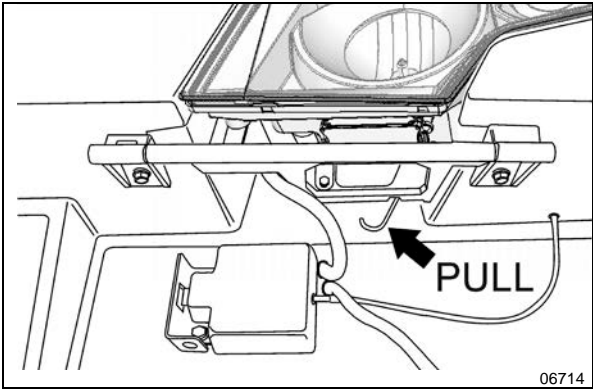

FIGURE 74: ROCKING THE HEADLAMPS ASSEMBLY
3. Pull on the rod shown on FIGURE 74 to pivot the headlamps assembly.